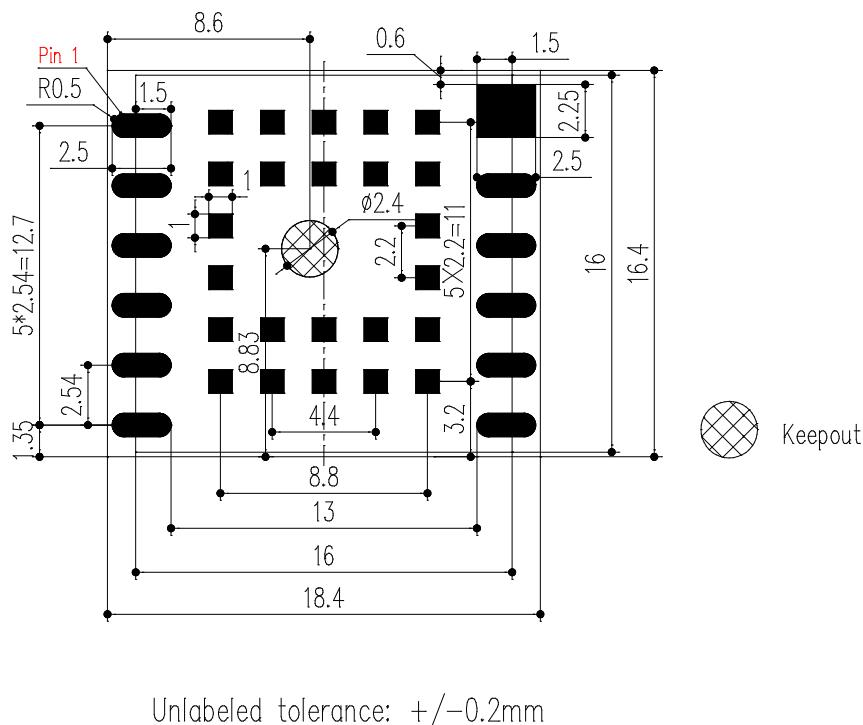

Figure 26: Recommended Footprint
2. “Keepout” mentioned in Figure 26: Recommended Footprint is a restricted area for traces and vias.